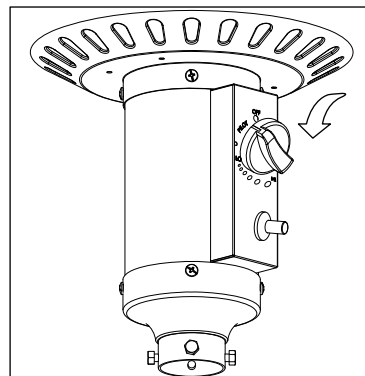

Figure 2
4. Push control knob in and rotate to pilot position or until the control knob stops, hold knob in (Figure 2). Note: For initial start or after any cylinder change, hold control knob in for 2 minutes to purge air from gas lines before proceeding.